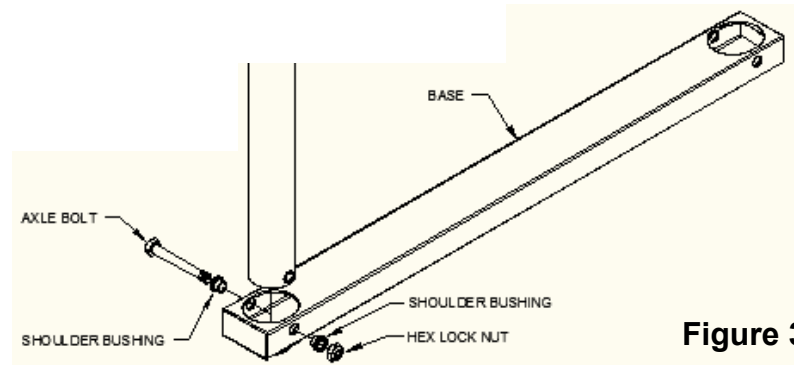

Figure 3
3. Remove the Axle Bolts from the base by removing the Hexagonal Lock nuts from the Axle Bolts (see Figure 3 below).
4. Position the bottom of the short Upright in one of the openings in the top of the base. **Ensure that the Shoulder Bushings are assembled on the Axle Bolt as shown in Figure 3 below.** Using the 1/2" wrenches, **securely tighten the Hexagonal Lock Nuts to the Axle Bolts.**